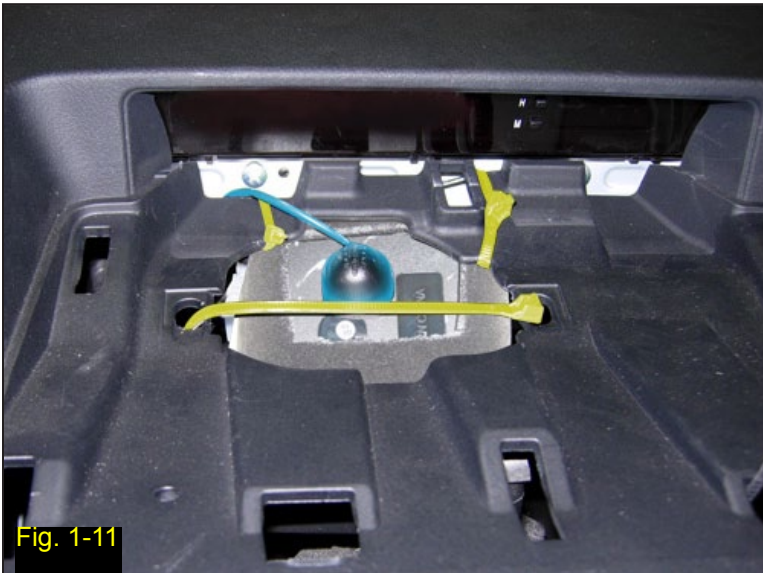

Fig. 1-11
2. Mount the microphone (highlighted in blue) forward of the wire tie and visually centered (Fig. 1-11).